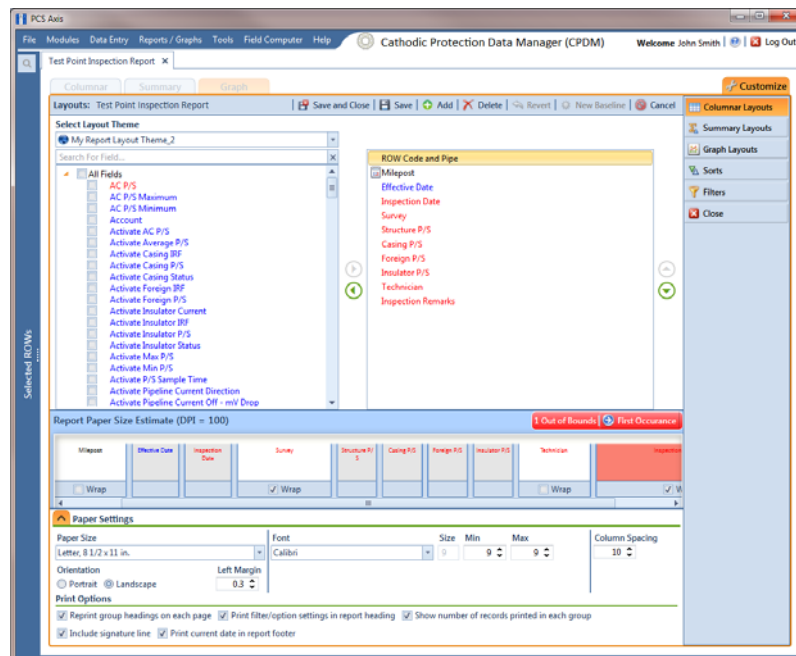

Figure 16-32. Columnar Layouts
- 8 Complete the following steps to add and remove fields in the report layout theme as needed (Figure 16-32, page 707):
- 10 Click  **Paper Settings** to open the property settings panel (Figure 16-32).
- a Place the mouse over a column boundary to change the cursor to a horizontal resize cursor  (Figure 16-32).